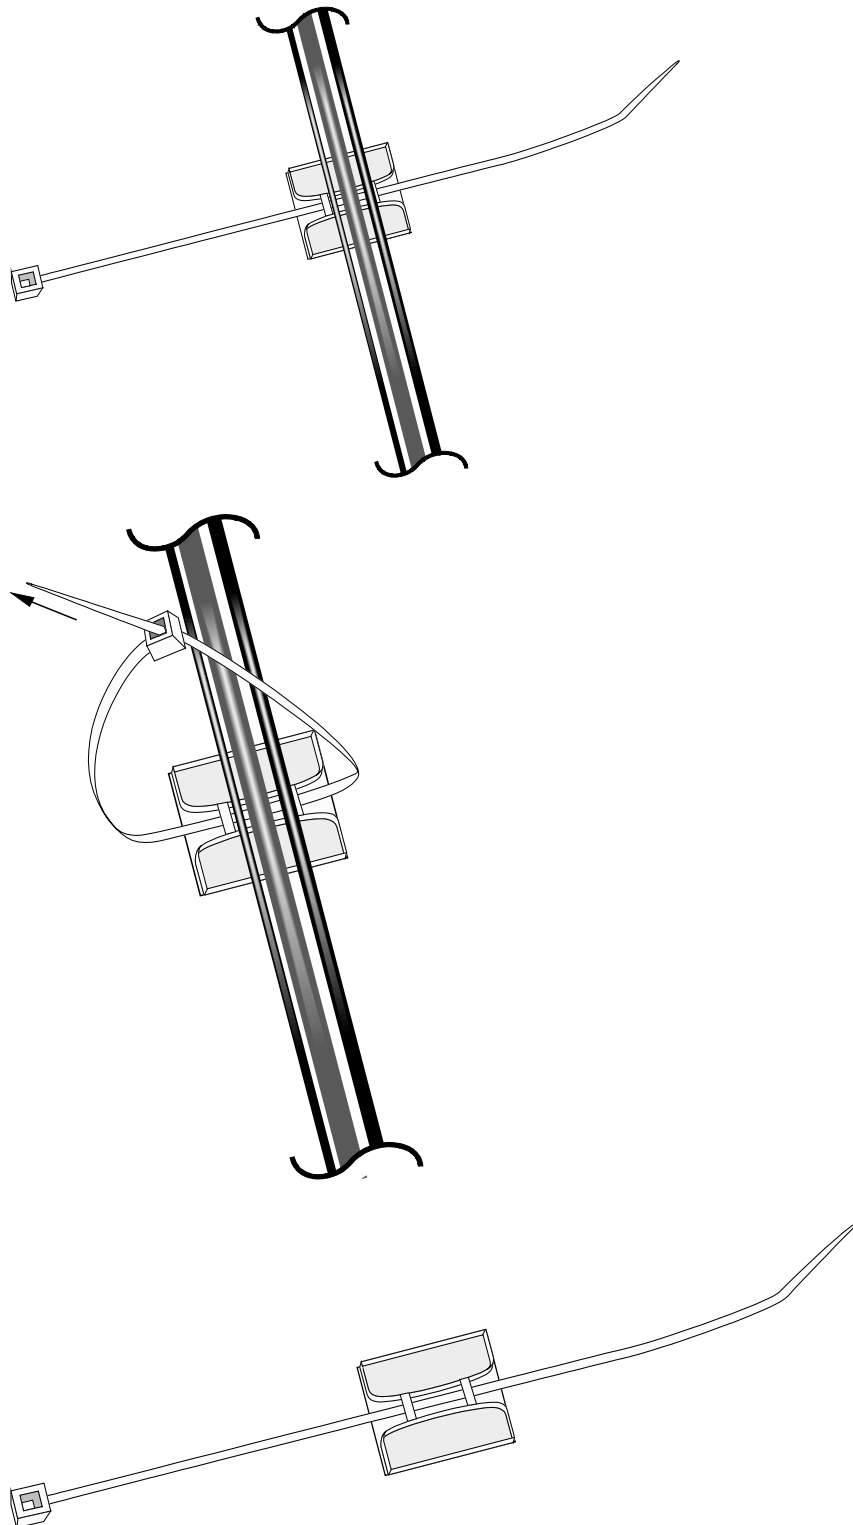
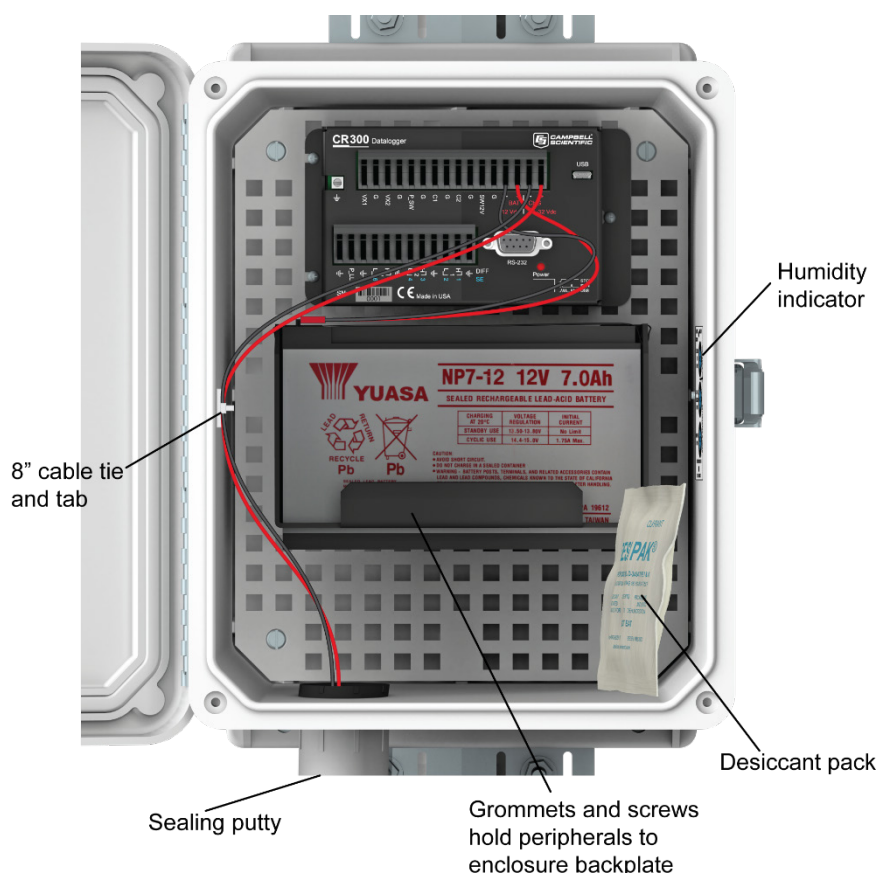

FIGURE 7-2. Securing cables to the cable tie tabs
FIGURE 7-3. Placement of enclosure accessories
3. Secure sensor and peripheral leads to the side of the enclosure using 8-inch cable ties and cable tie tabs (see FIGURE 7-2 and FIGURE 7-3).
NOTE Refer to FIGURE 7-3 for steps 3–6.
5. Secure sensor and peripheral leads to the side of the enclosure using 8-inch cable ties and cable tie tabs (see FIGURE 7-3).
Refer to FIGURE 7-3 for steps 5–8.